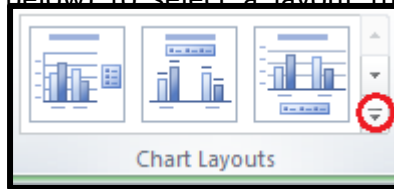

Figure 27 - To show all Chart Layouts click here
- In the **Chart Layouts** section, use the drop down arrow (see Figure 27 below) to select a layout that includes both a chart title and legend